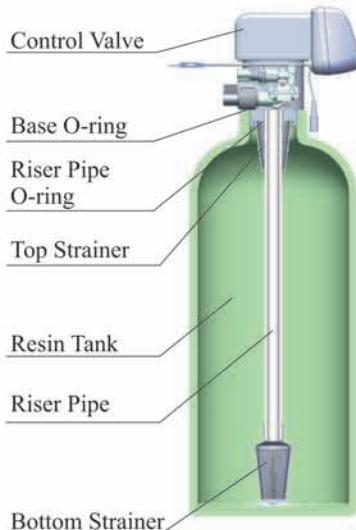

Figure1-1
- ① The filter or softener should be located close to the drain.
- ② Ensure the unit is installed in enough space for operating and maintenance.
- ③ Brine tank needs to be close to softener.
- ④ The unit should be kept away from the heater, and not be exposed outdoor. Sunshine or rain will cause the system damage.
- ⑤ Please avoid to install the system in one acid/alkaline, Magnetic or strong vibration circumstance, because above factors will cause the system disorder.
⑥Do not install the filter or softener, drain pipeline in circumstance which temperature may drop below 5°C, or above 50°C.
⑦The system should be installed in a place where there will be the minimum loss in case of water leakage.
①Install control valve
a. As the Figure 1-1 shows, select the riser pipe with 26.7mm OD, glue the riser pipe to the bottom strainer and put it into the mineral tank, cut off the exceeding tube out of tank top opening. Plug the riser tube in case of mineral entering.